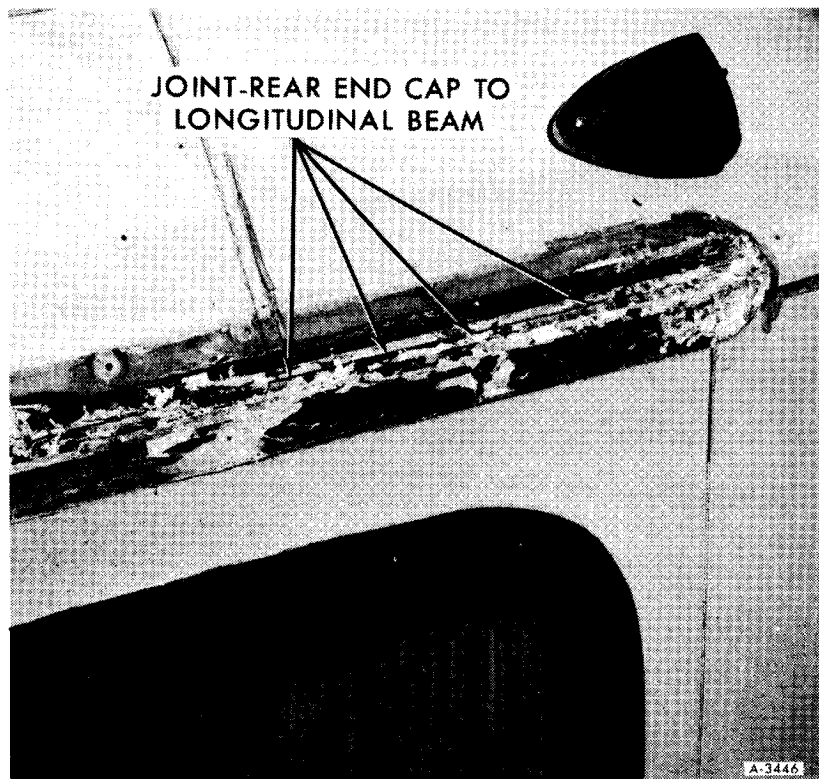

FIGURE 3
5. Clean joint at rear of longitudinal beam and rear end cap as shown in Figure 3. Fill joint thoroughly with sealer.